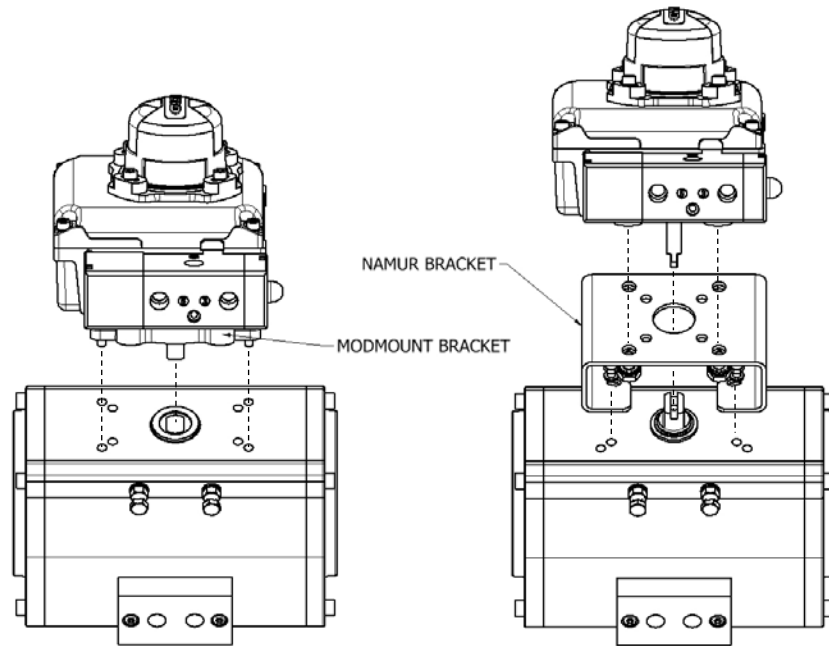

Fig 1
- 4.1.3 Using an 8mm A/F spanner, secure the assembly taking care not to exceed the torque specified on the bracket. See Figure 1.
- 4.2.3 Attach the unit and mounting system to the actuator. See Figure 1.